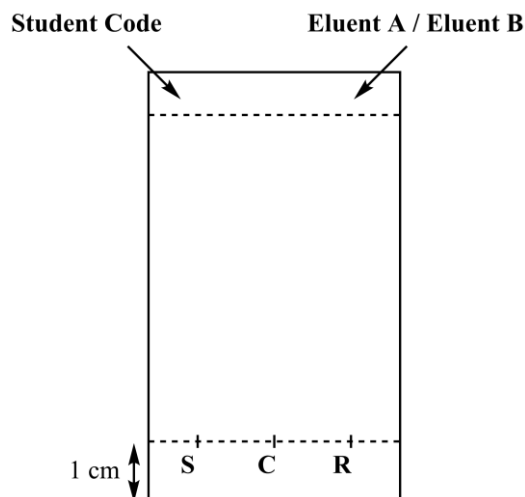

Figure 3. TLC plate preparation
- Prepare your TLC plate.** Use a pencil to **draw** carefully the start line (1 cm above the bottom of the plate) and **mark** the positions in order to spot the 3 samples. **Label** them **S** (Starting material), **C** (Crude product) and **R** (Recrystallized product), as described in Figure 3.